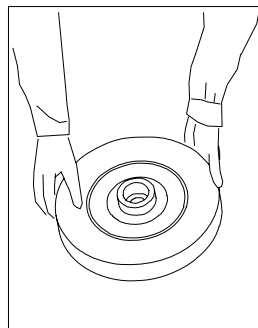

Fig6.11.2
- (1) Confirm if there are any labels or papers on flanges, set the wheel into flange as drawing FIG 6.11.2, Do not press the wheel into flange with too much force. Get rid of the burrs on wheel hole so that you can put the wheel into flange smoothly.